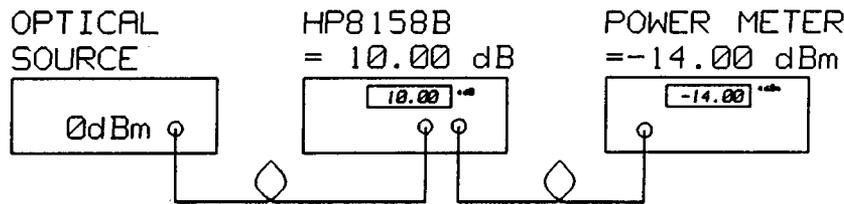

Figure 3-2.
2. Adjusting the displayed attenuation to take known external losses into account. Consider the typical setup shown in the following figure 3-2.